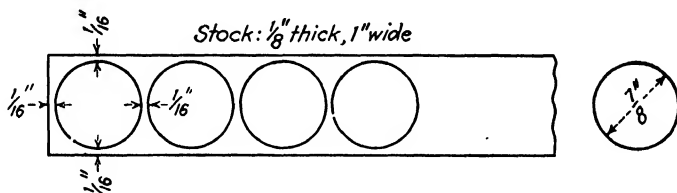

Fig. 298.—The steel strip is 36 in. long.
15. How many round pieces  $\frac{7}{8}$  in. in diameter can be “punched” from a strip of steel 36 in. long, allowing  $\frac{1}{16}$  in. between punchings (see Fig. 298)?
16. a. What is the weight of the unpunched strip in Fig. 298?